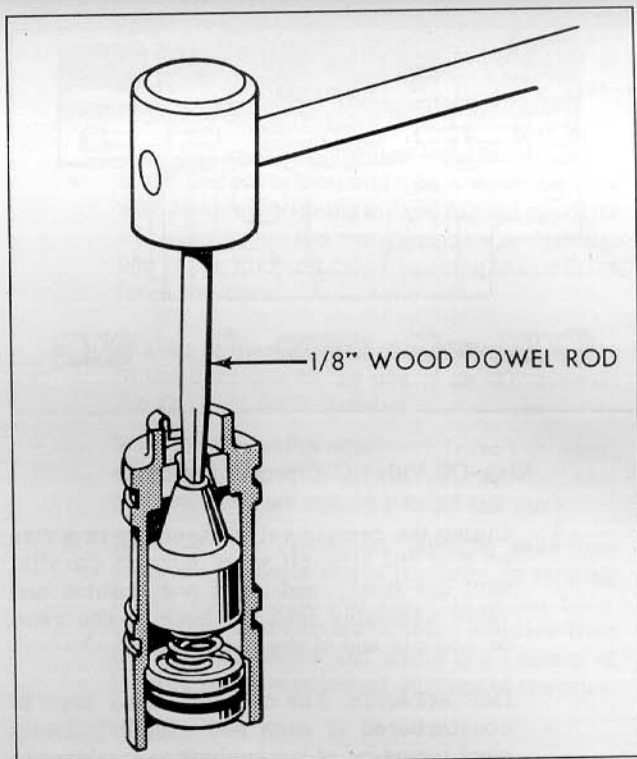

Figure 10
2. Stand one bushing assembly on end as shown in Figure 10 and use a 1/8" diameter wood dowel applied at the top of the check valve, as shown, to drive the plug out of the bottom of the bushing assembly.
3. Strike the wood dowel with a sharp blow in the direction indicated in Figure 10. This action will cause the check valve to bear against the spring. The spring in turn will force the plug out of the bore of the bushing. With the plug removed, the check valve and spring can be removed from the bushing bore.
1. Use Figure 10 as a guide and insert the check valve into the bushing bore and then drop in
2. Install a new "O" ring on the O. D. of the plug and start the plug into the bore with the counter-bored face of the plug contacting the spring. (See Figure 10.)